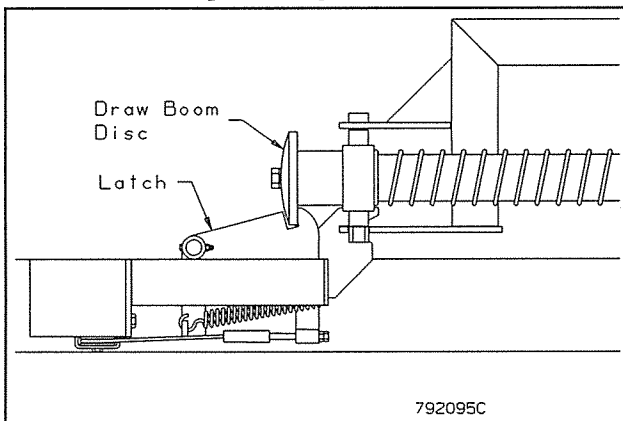

Figure 2.2f: Latch Fully Engaged
- 13a. Model 65/65 XL/65 XLT: Raise secondary wing booms to 46" spray boom height, draw boom disc should be fully engage by latch. Raise secondary booms completely. Latch should clear draw boom disc by 1" to 1 1/2". Adjust cable if required, Figures 2.2f and 2.2g.